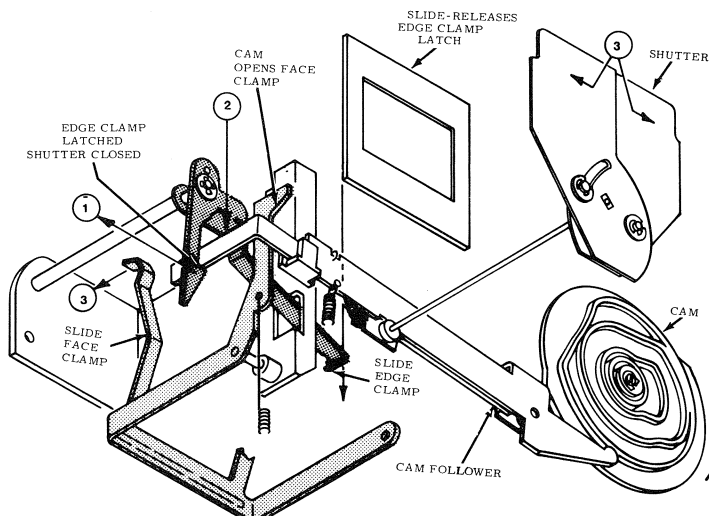

Figure 3-14. Shutter and Slide Clamp Operation
J. SHUTTER AND SLIDE CLAMPS (Figure 3-14)